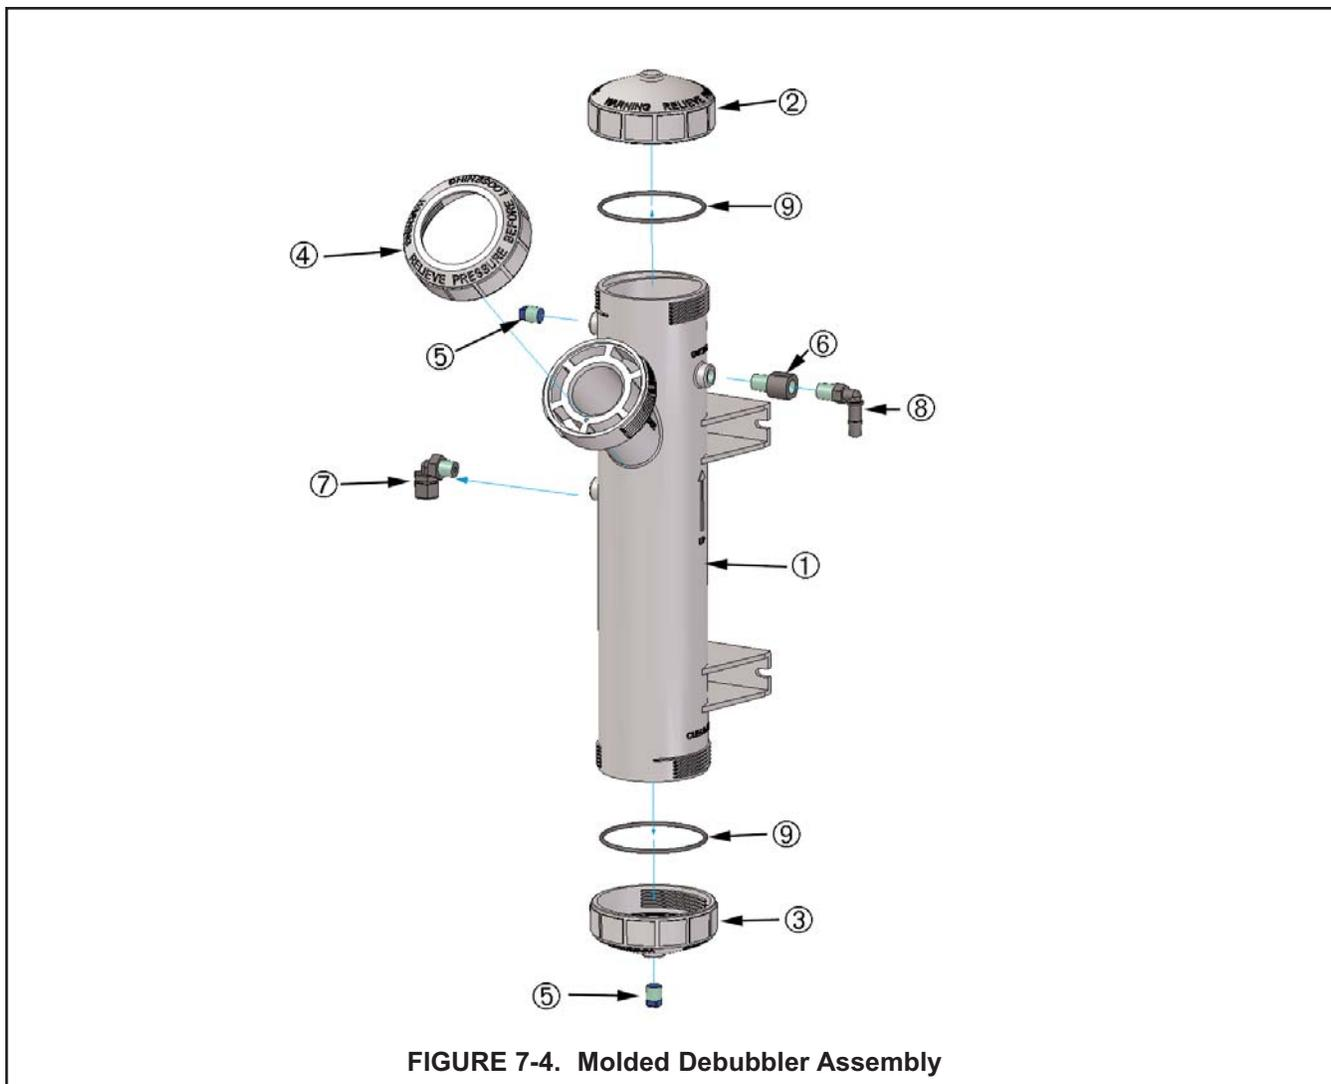

FIGURE 7-4. Molded Debubbler Assembly
- Loosen the small drain plug in the base plug and allow the sample in the debubbler to drain out. See Figure 7-4. Replace the drain plug.
- Disconnect the drain line. Unscrew the drain fitting from the orifice; then unscrew the orifice from the debubbler body. See Figure 7-4.